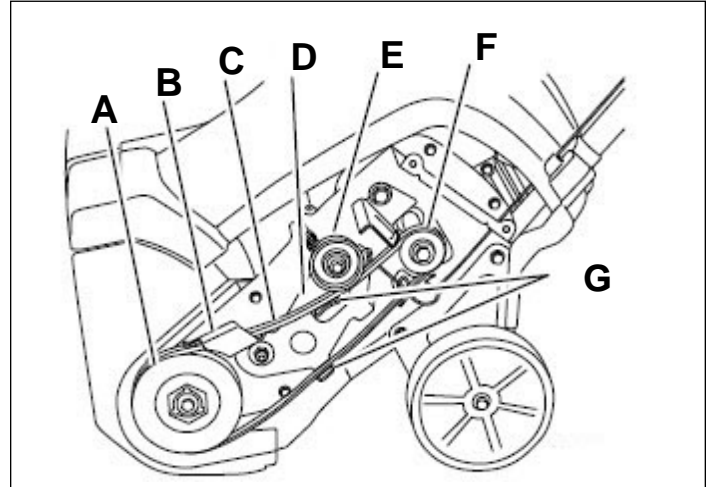

Fig. 006
2. Remove the belt from the rotor pulley (Fig. 006).
Make sure to install the drive belt so that it sits above the two tabs on the idler arm and below the idler arm brake (Fig. 006).